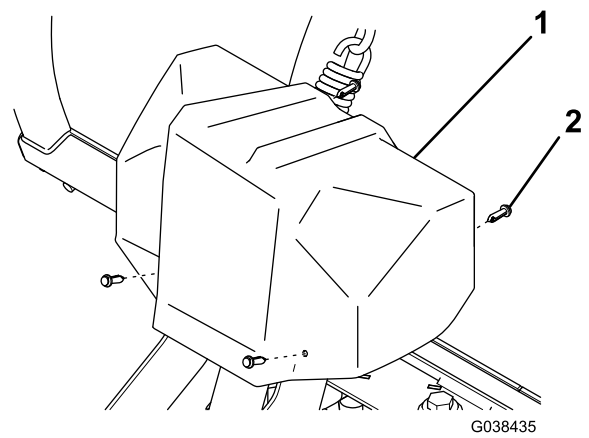

Figure 23
2. Remove the 4 plastic rivets securing the coupler cover to the coupler, and remove the cover (Figure 23).